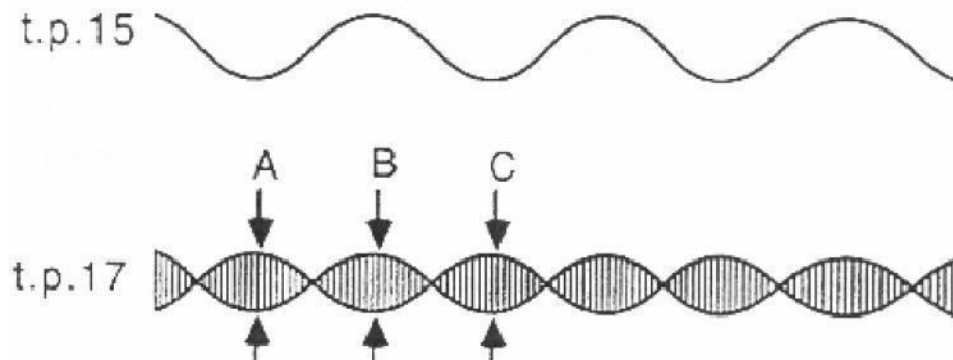

Figure2: Modulating and Modulated Signal waveforms
6. Next, examine the output of the balanced modulator block (att.p.17), together with the modulating signal at t.p.15 trigger the oscilloscope on the modulating signal. Check that the waveforms are as shown Fig. 2.